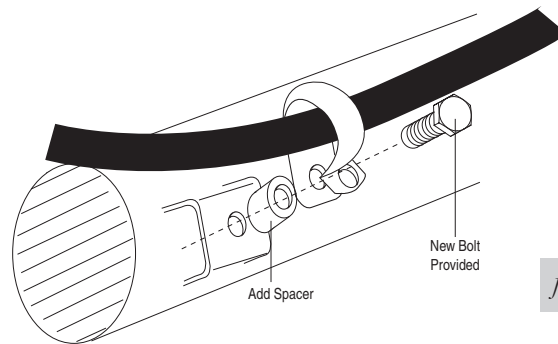

fig. 3
3. Models with disc brakes: Remove the bolt holding the cable onto the back-side of the passenger's side axle. Install the supplied spacer (JJ) between the bracket and the emergency brake cable clip. Insert the supplied bolt (KK) and tighten the cable down securely (Fig. 3).